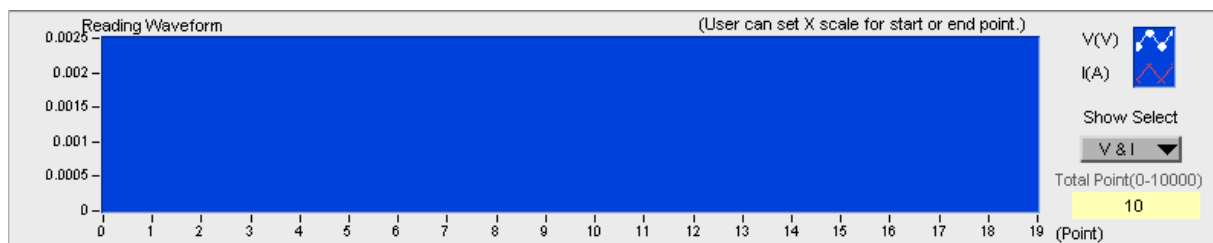

Figure 9-20 Reading Waveform Window
The report result contains settings and readings. The settings include: Program Function, Total run time, Load on Setting, Time Interval (Sec), Output Name, Mode, Loading Setting, Short and Time (S). The readings include: Voltage Reading (V), Current Reading (A), and the voltage or current readings of each sequence or step along with the mapping time. See Figure 9-20 for the example.